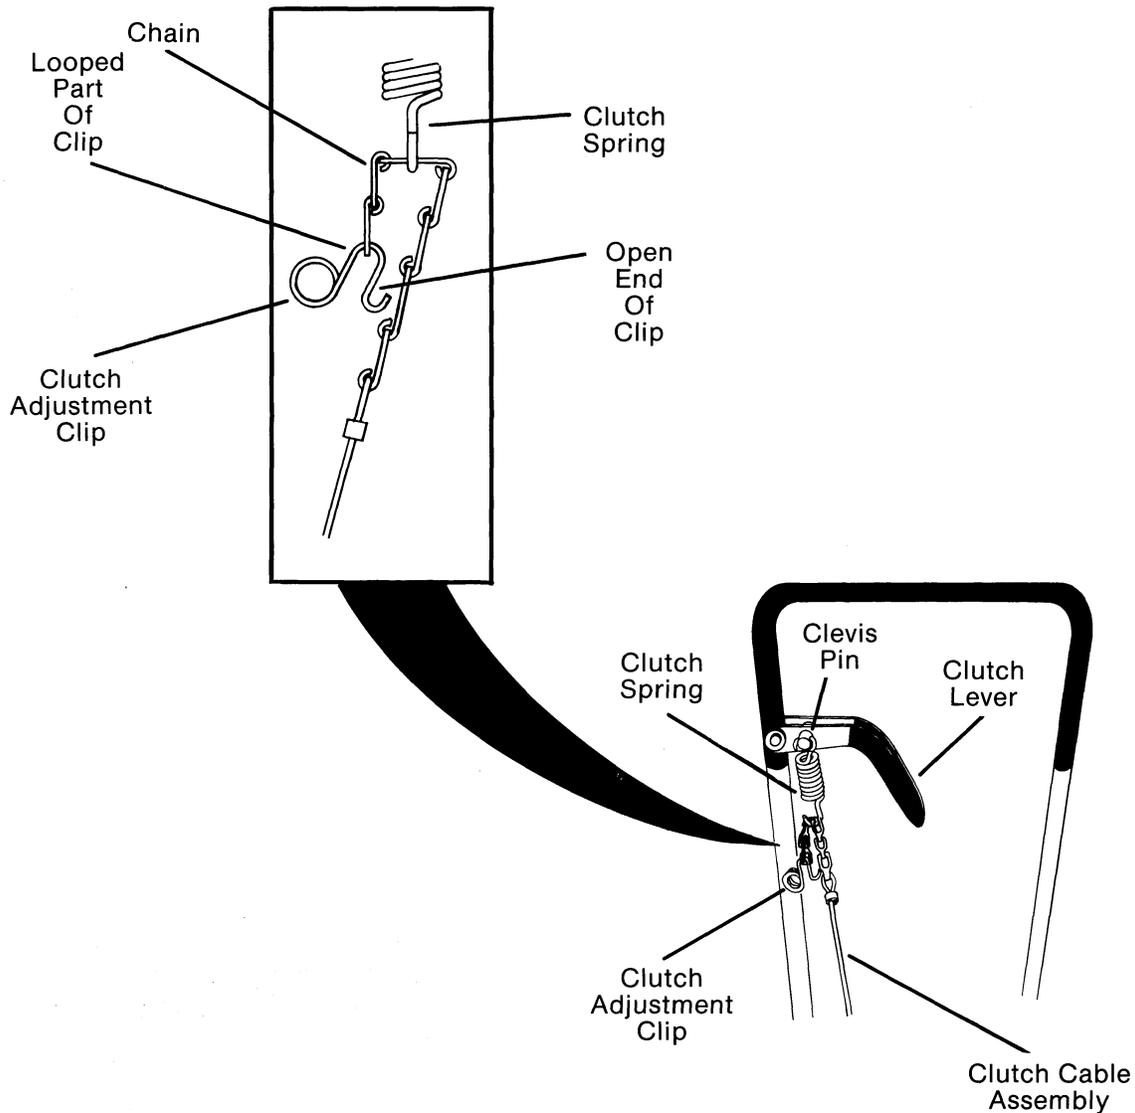

FIG. 3
- D. Insert clevis pin through hole in clutch handle from top down, (front to rear). (Fig. 3)
- E. Hook one end of clutch spring through the hole in clevis pin. (Fig. 3)
- F. Thread the looped part of clutch adjustment clip through the end link of the chain. (Fig. 3) Place chain over the lower hook of the clutch spring. (Fig. 3)
- H. Hook the open end of clutch adjustment clip into the link of the chain it is closest to. (Fig. 3)